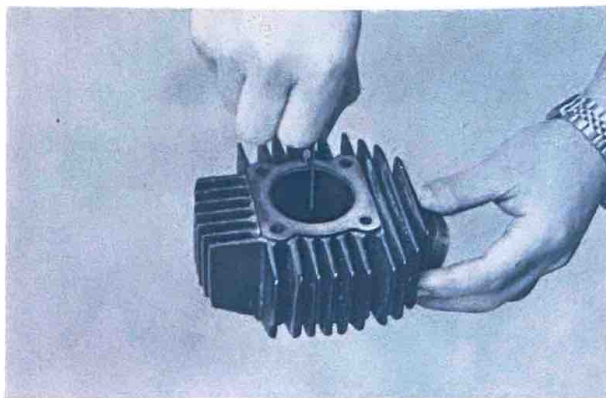

Fig. 3-5-4
- 1) Measuring piston ring wear. Put the ring into the cylinder so that the ring is parallel to the cylinder bottom edge, and then measure the end gap with a feeler gauge (Fig. 3-5-4). The end gap should be between 0.15 and 0.35 mm. (0.006"-0.014") for both No.1 and No.2 rings.